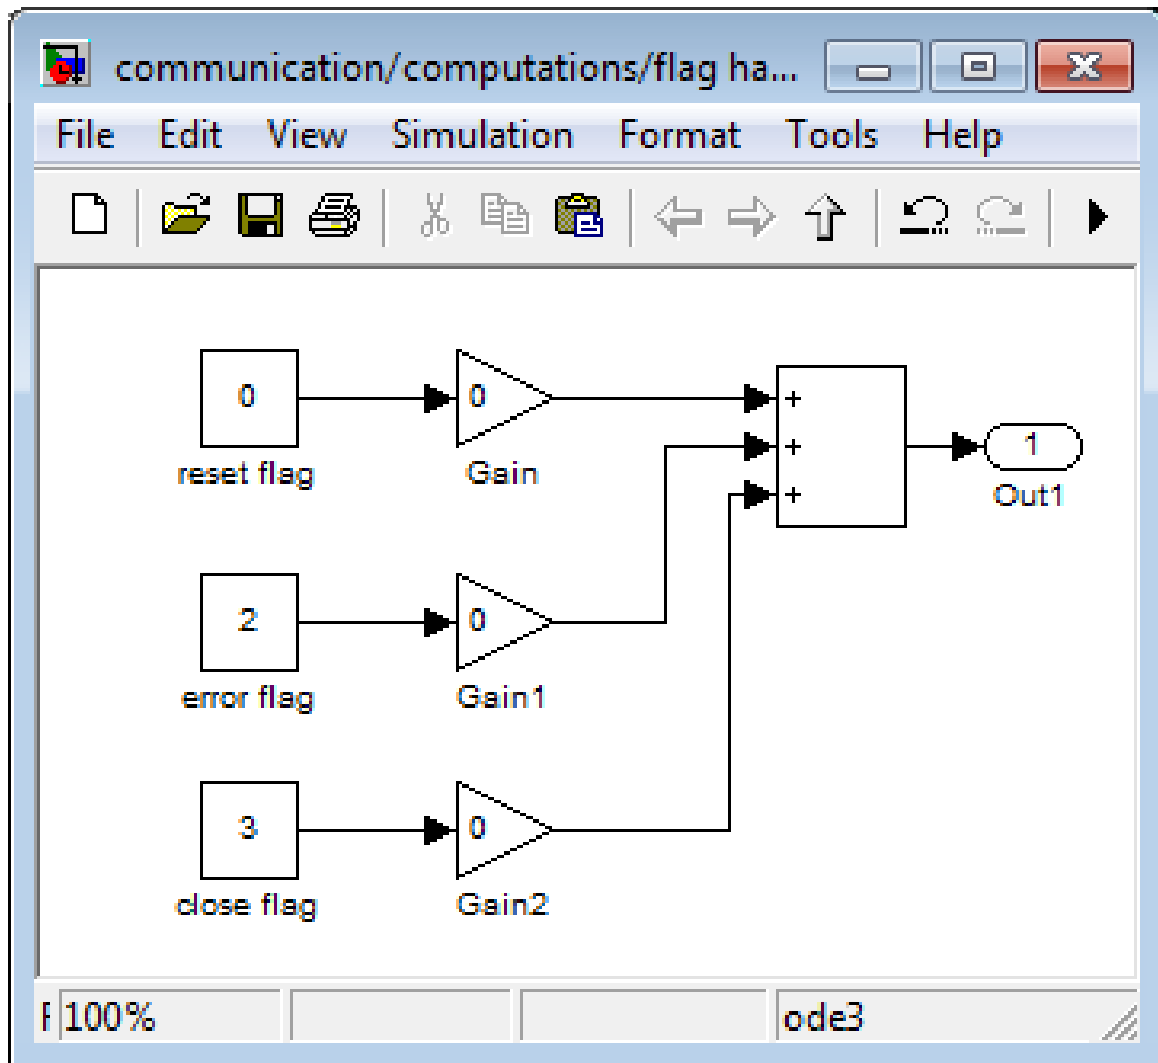

Figure 3.53: TCP/IP subsystem “flag handling out”
- (6) Open the subsystem “flag handling out”, see figure 3.53. In default no handling flags are transmitted to HOTINT.